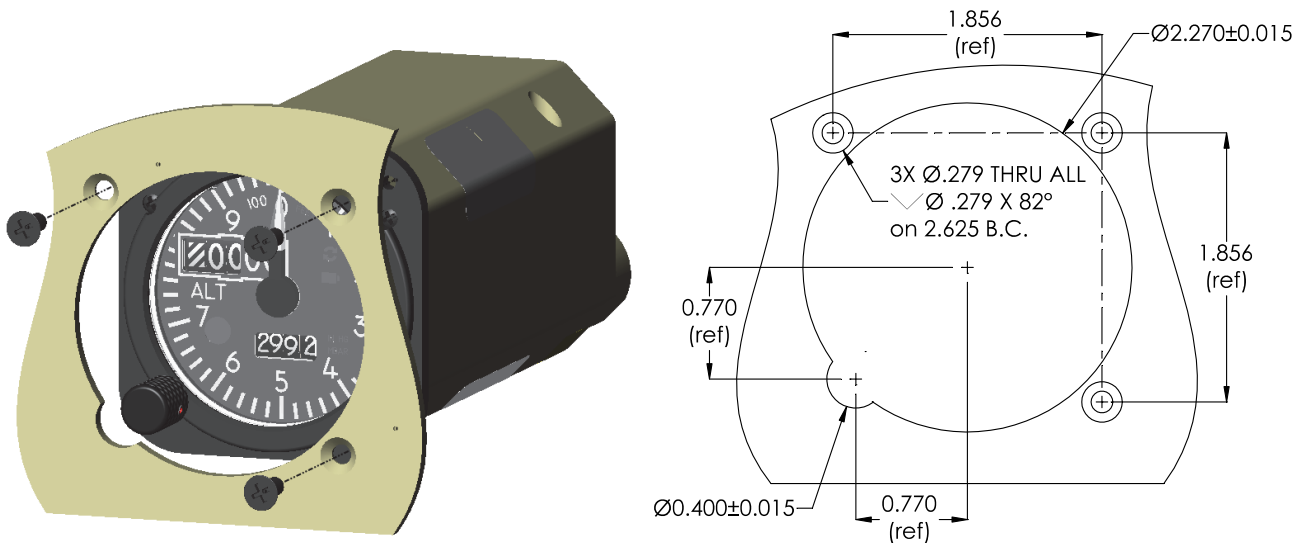

Figure 3.1
1. Ensure the available instrument panel cutout meets the requirements of the indicator. See Figure 3.1